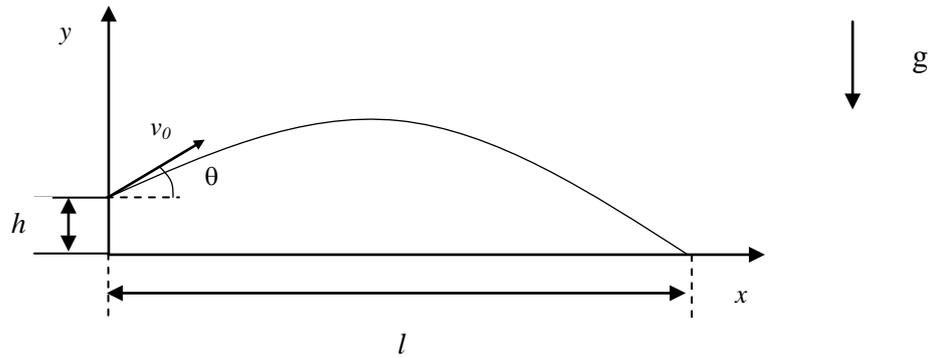

Figure 2.1: The shot put attempt
- Formulate the equations for the projectile motion; acceleration, velocity and distance as functions of time  $t$  for the  $x$ - and  $y$ -direction, respectively. Make sure to include initial values ( $t=0$ ) in the equations. The gravitational acceleration is denoted  $g$  and defined in the direction according to Figure 2.1.
- Combine the equations above to formulate an expression for the length  $l$  as a function of the elevation angle  $\theta$  (see Figure 2.1). The magnitude of the initial velocity is denoted  $v_0$ . Let the initial values in the equations for the particle motion be consistent with Figure 2.1. The expression for the length  $l(\theta)$  may include the quantities  $\theta$ ,  $v_0$ ,  $h$  and  $g$ , *please observe – not time  $t$* .
Make a design study on how the length  $l$  (see Figure 2.1) depends on the elevation angle  $\theta$ .